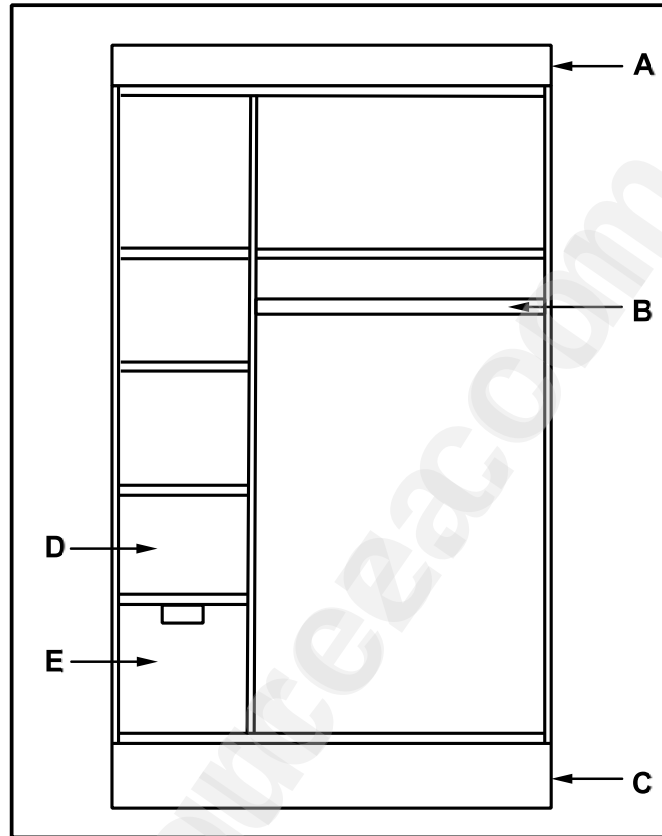

FIGURE 3.3
- 3.3 FIGURE 3.3 shows the built in cupboard without the doors. Study the figure and answer the questions that follow.